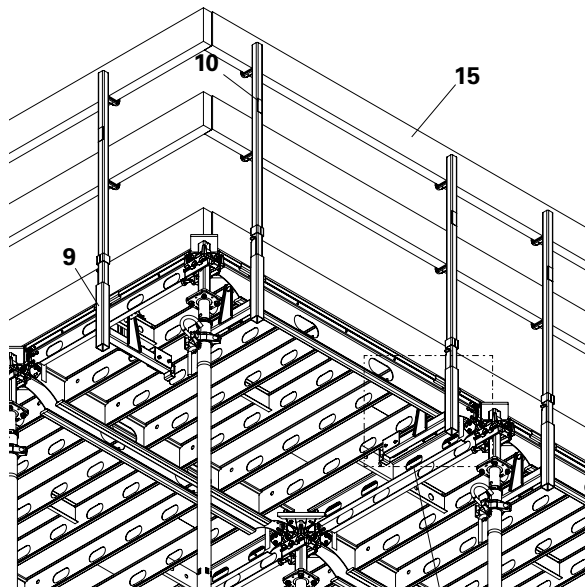

Fig. A9.04
6. Insert the guardrail boards (15) and secure with nails. (Fig. A9.04)